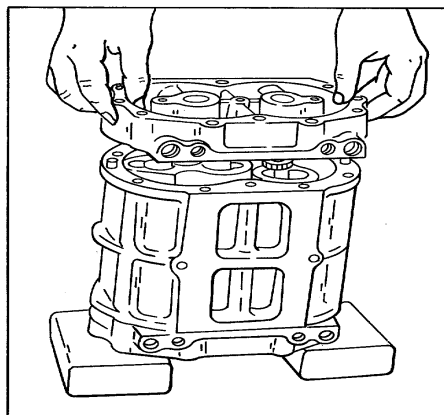

Figure 9. Installing Rear End Plate
5. Place the rear end plate over the rotor shafts (Fig. 9). On the former blowers, be sure that the ring-type oil seals are properly positioned on the rotors. Secure each end plate to the blower with four end plate cover bolts and plain washers.